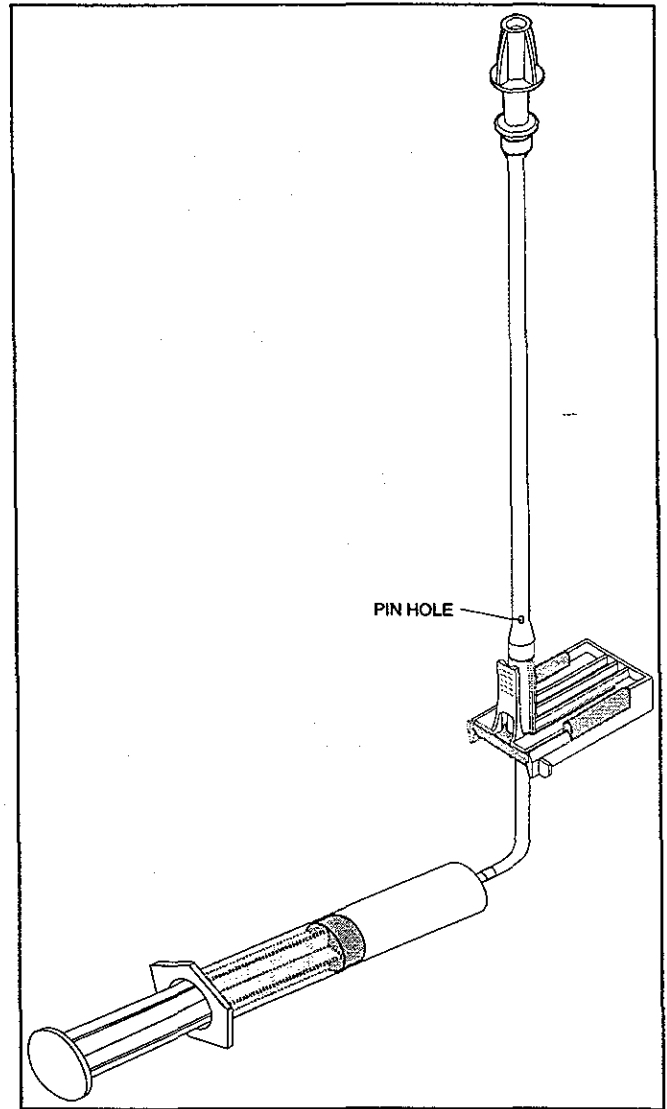

Figure 7-2. Air-in-line Simulator
2. Air in line simulator (see Figure 7-2)
2. Install the pumping segment of the AIL simulator (see Figure 7-2) into the channel A pumping mechanism, then press the tubing into the AIL detector.